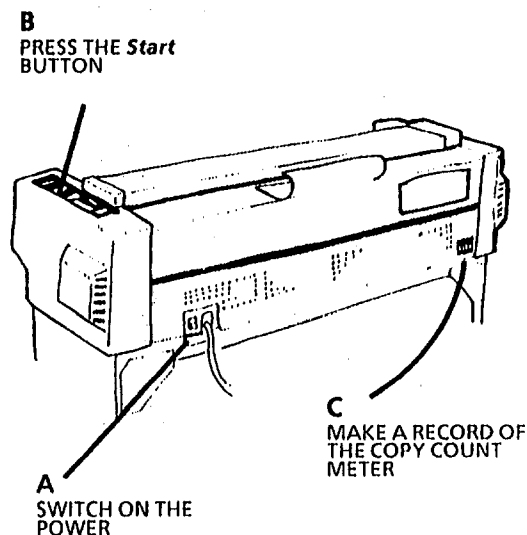

Figure 29. Switching on the Copier
43. (Figure 29): Switch on the copier.